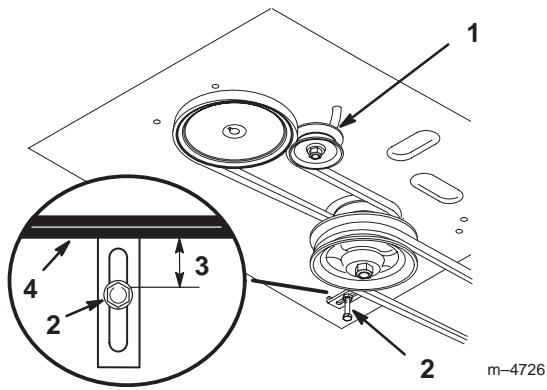

Figure 46
5. Install new belt around engine and drive pulleys (Fig. 46).
6. Slide idler pulley in engine frame to tension traction belt (Fig. 46).
8. Check the belt guide under the engine frame for proper adjustment (Fig. 46). The distance between the belt guide and mower belt should be 1-3/8 in. (35mm). Adjust as necessary. The disengaged belt should not drag or fall off pulley when guides are properly adjusted.
10. Check the belt guide under the engine frame for proper adjustment (Fig. 46). The distance between the belt guide and mower belt should be 1-3/8 in. (35mm). Adjust as necessary. The disengaged belt should not drag or fall off pulley when guides are properly adjusted.